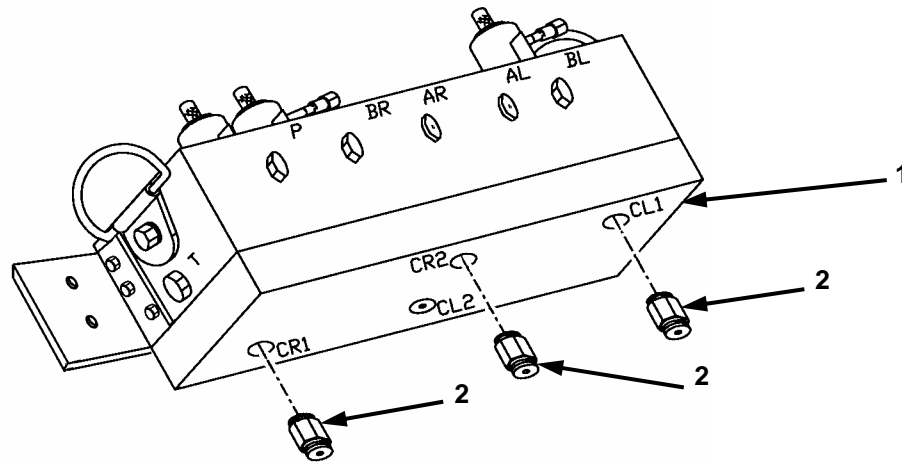

Figure 2-20. Manifold Bottom.
16. Install three straight adapters 4F50X-S (Figure 2-20, 2) on track and blade manifold bottom (1), ports CR1, CR2, and CL1.